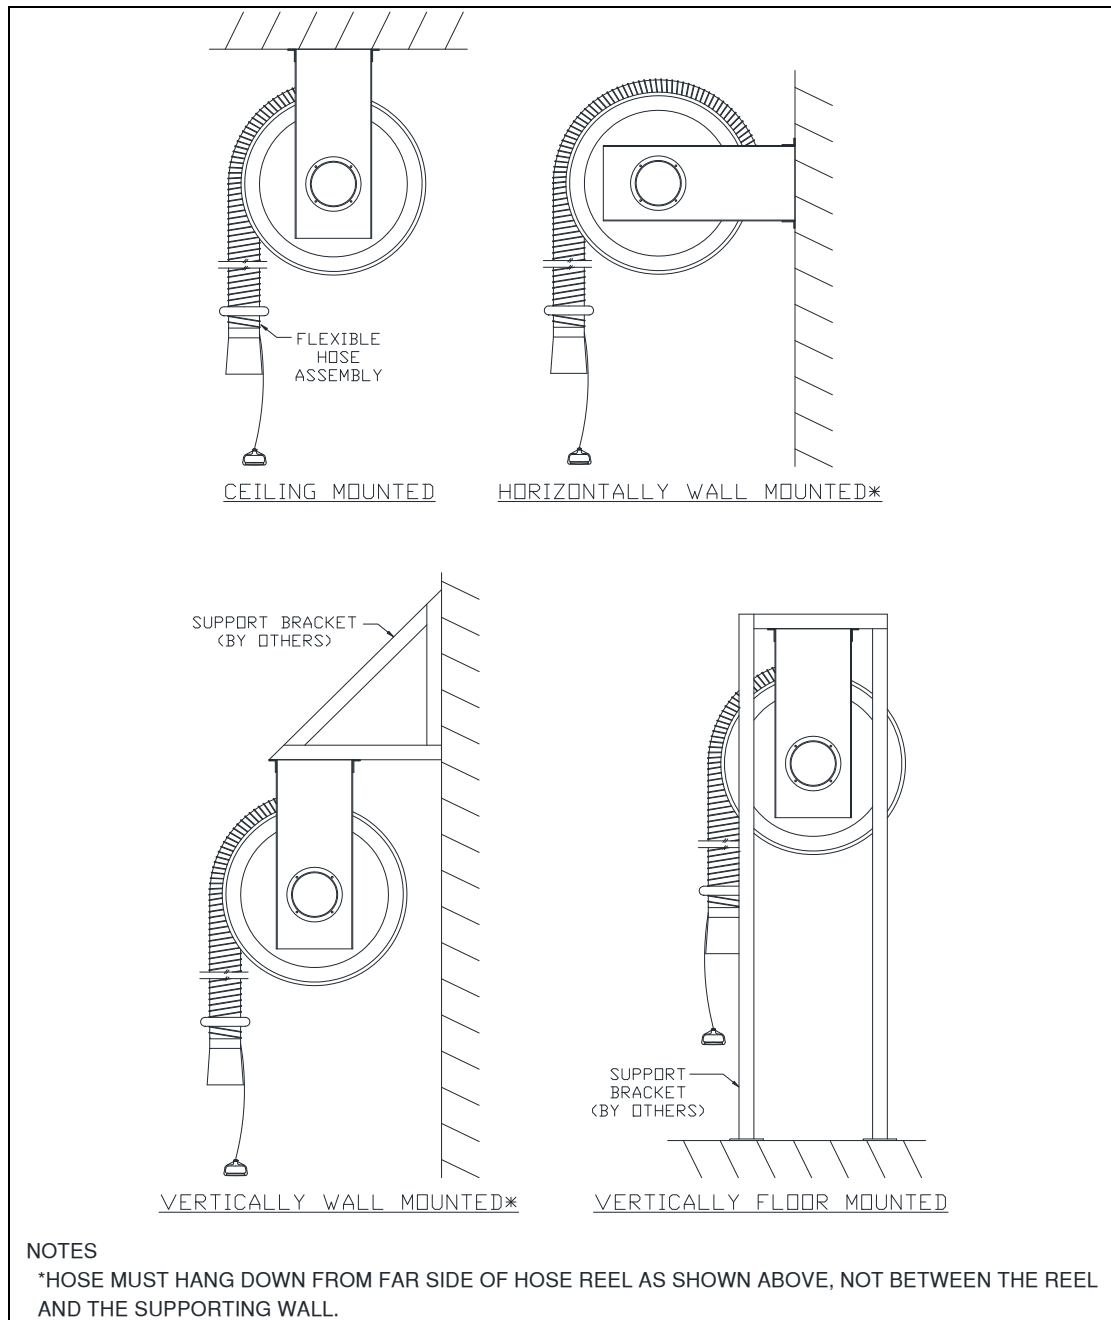

FIG1 – OPTIONAL MOUNTING CONFIGURATIONS
- Several mounting options are possible (See FIG 1 for details). Regardless of which orientation, the axis of the hose reel drum must be parallel to floor. Ceiling or floor mounted configuration is mandatory for hose reels with direct mounted exhaust fans. Contact factory for wall mounted reels with integral exhaust fan.